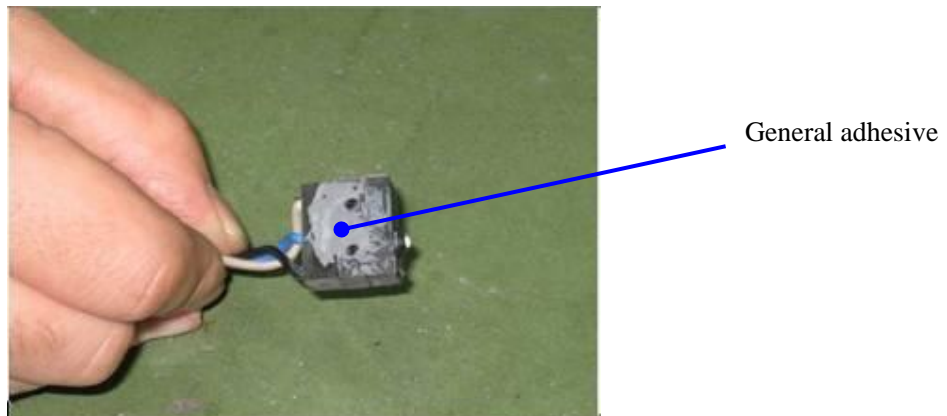

Figure 48: Apply general adhesive
2. Coating general adhesive on brake switch installing surface. See Figure 48.